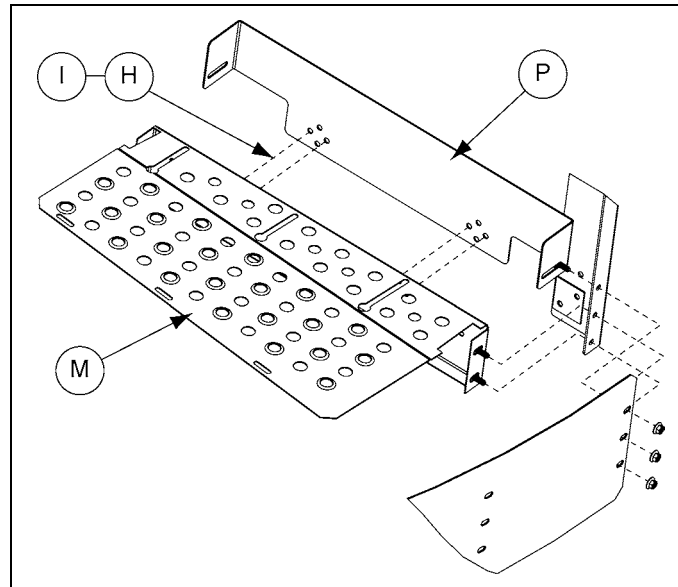

Figure 3E
4. Install the end toe board (P) to the end plank (M) using bolt (H) and nut (I). (See Figure 3E.)